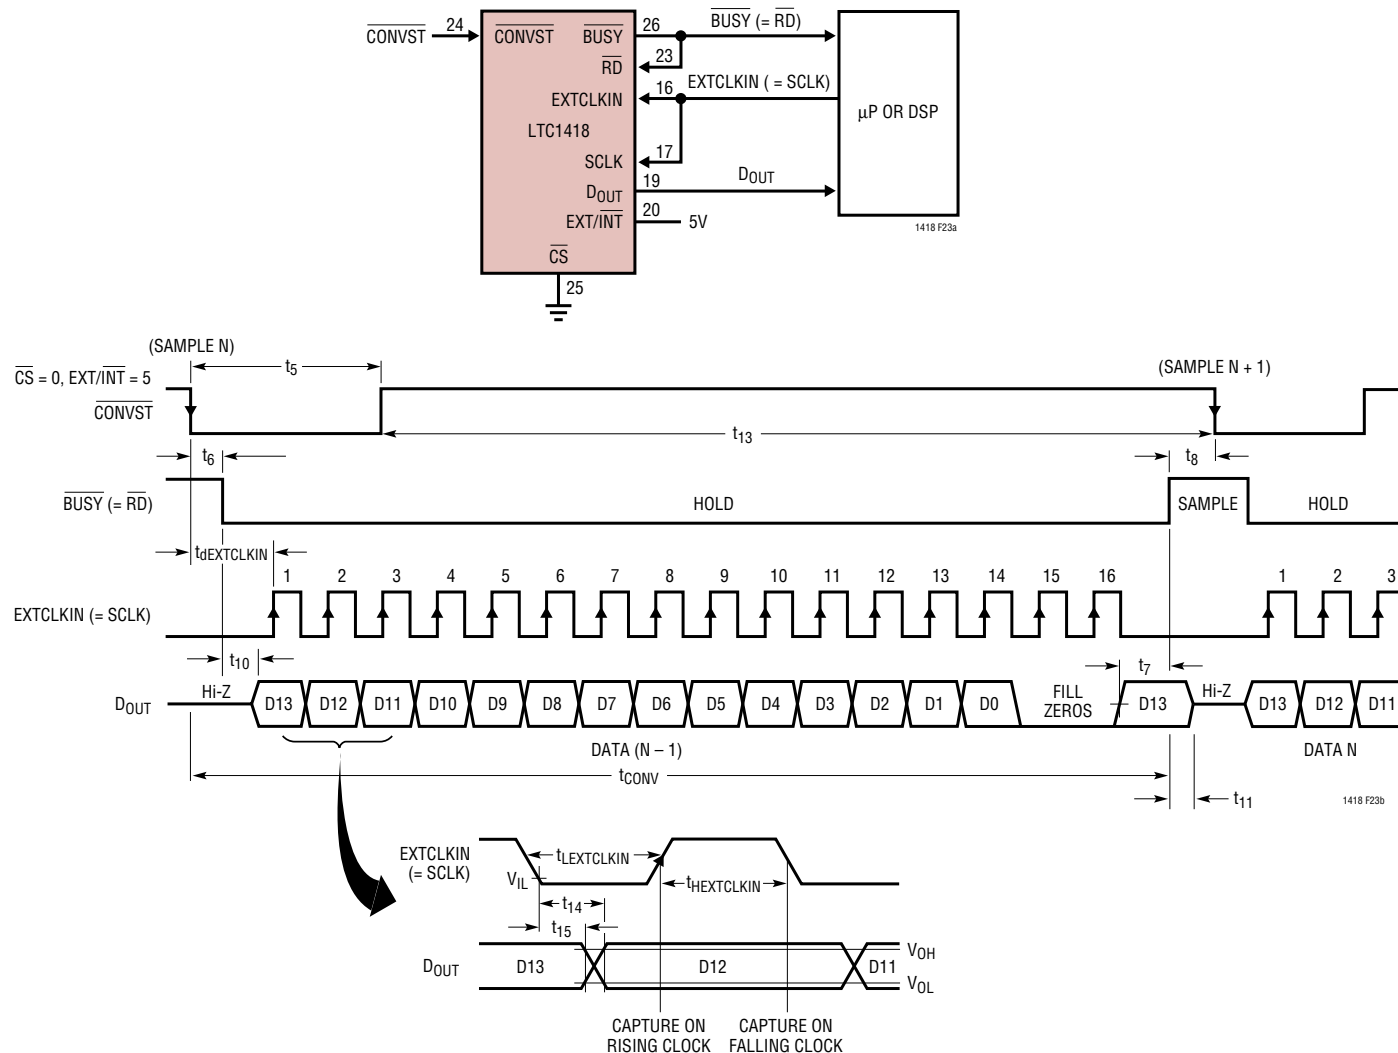

Figure 23. External Conversion Clock Selected. Data Transferred During Conversion Using the External Clock (External Clock Drives Both EXTCLKIN and SCLK)
**Using External Clock for Conversion and Data Transfer.** In Figure 23, data from the previous conversion is output during the conversion with an external clock providing both the conversion clock and the shift clock. To select an external conversion clock, tie EXT/INT high and apply the